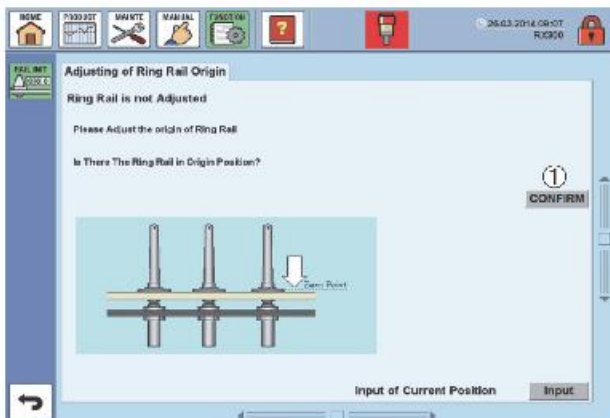

Fig. 8 Ring rail origin setting (Incomplete)
(4) Input “1414” as the password and touch the [Enter] key to display the initial setting-adjustment menu.
(5) Touch the ring rail origin adjusting icon on the initial setting-adjustment menu (Fig. 8) to display the ring rail origin setting screen.
1. When setting is incomplete, the screen display is as shown in Fig. 8. (Warning message W-16C is displayed.)
As the reconfirmation screen appears, touch [YES] if OK. this returns to the setting incomplete state and the screen in Fig. 8 reappears.
(6) Make sure that the ring rail is in the specified position, and check adjustment of the PRS8 sensor and bracket. Touch [CONFIRM] (① in Fig. 8).